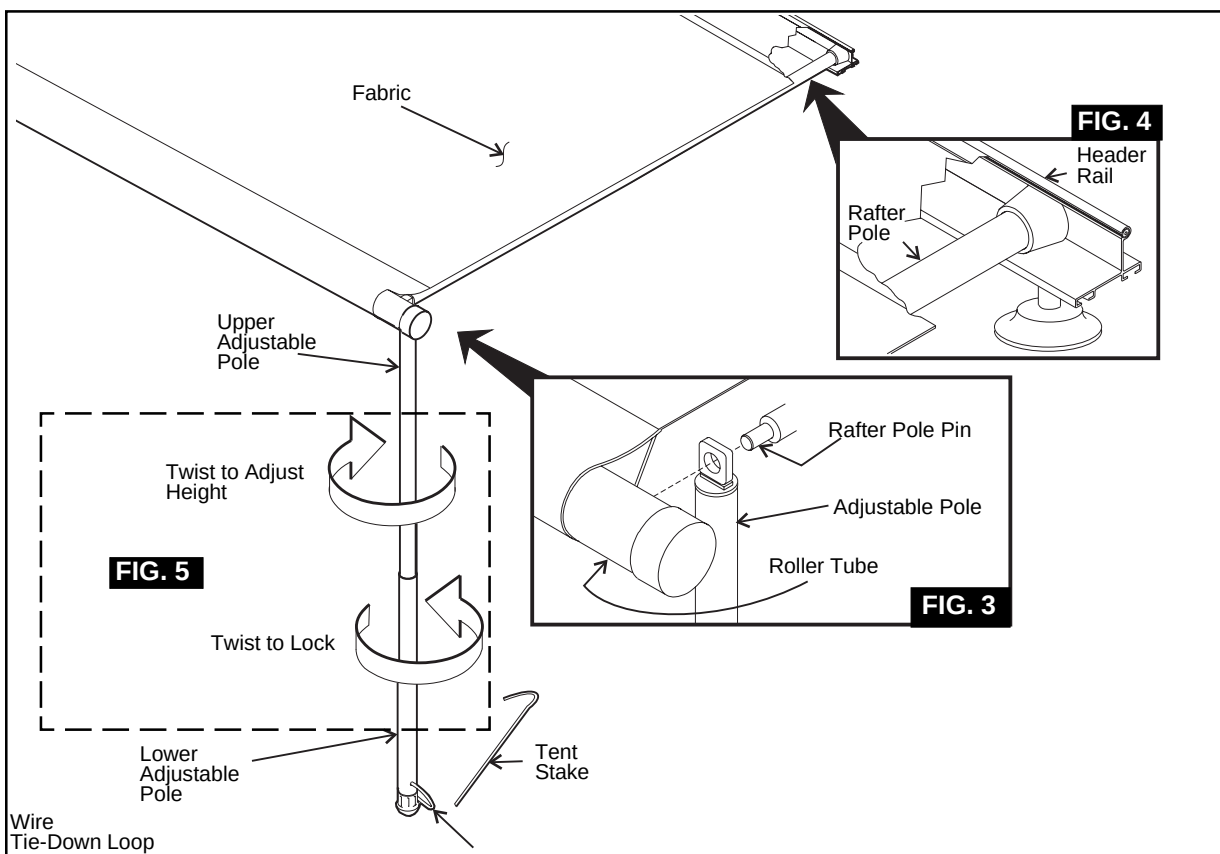

FIG. 6
5. Place one plastic spacer inside each rafter assembly. (FIG. 6) Compress the rafter poles and place the end of each rafter against the bottom of the header rail. See FIG. 7.